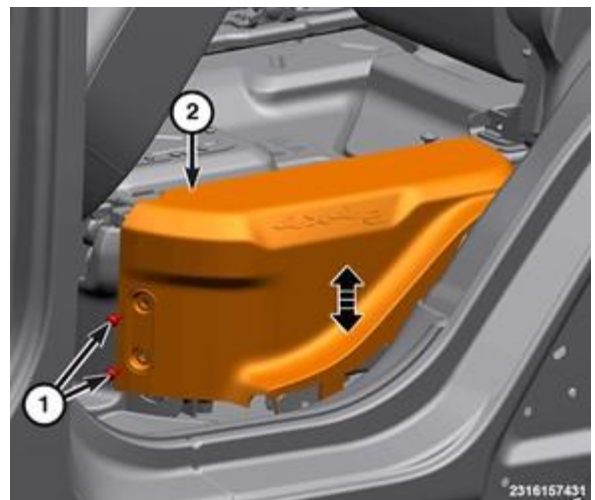

Figure 23 – HV Battery Side Trim
- 41. Remove the fasteners (1) from the side high voltage battery trim panels (2) (Figure 23).
79. Install the high voltage trim panel and press downward to seat the retainers (Figure 23).